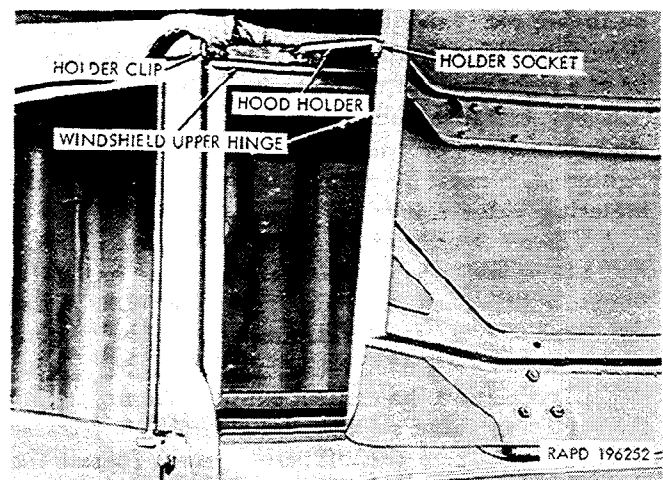

Figure 2-93. Hood in open position.
(1) Place the vehicle under suitable engine-lifting equipment. Arrange to have tools, wood blocking, and supports available for use when needed. Block the wheels to prevent the vehicle from moving.
(2) Disconnect the battery ground cable from the outer battery.
(3) Open the hood to the wide-open position and secure the windshield support frame hood holder in the hood holder socket (fig. 2-93).